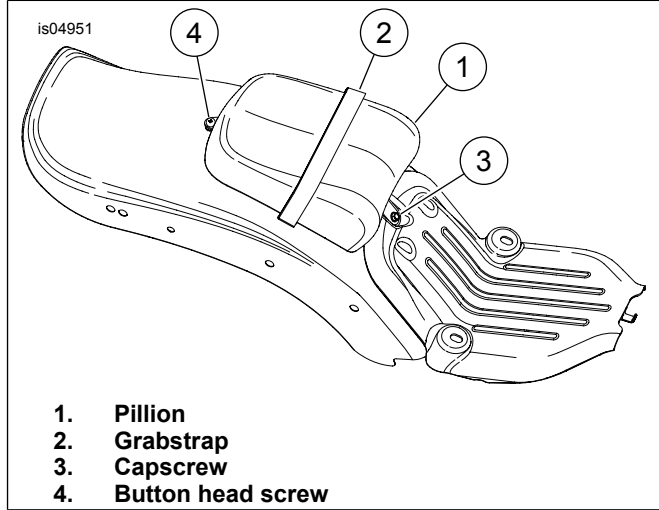

Figure 4. Install Passenger Pillion
- See Figure 4. Install cap screw (3) from the kit in the location shown to secure the front of the pillion.
- Install screw (4) from the kit into the rear retention nut as shown to secure the rear of the pillion.